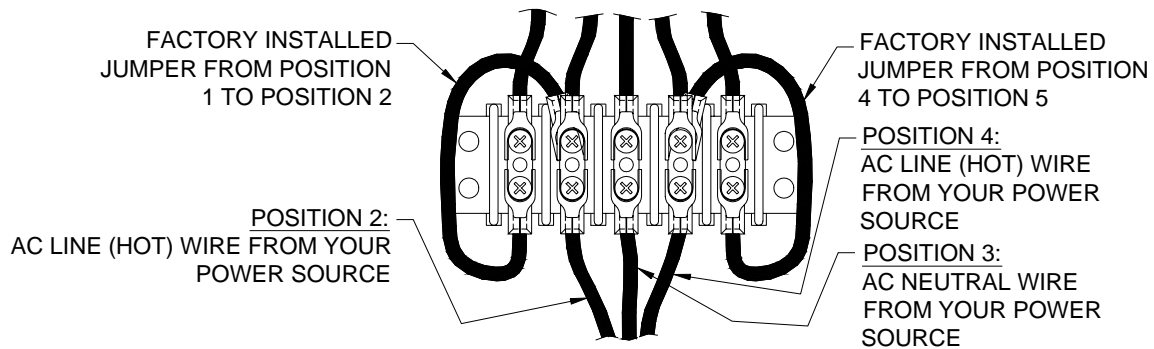

Figure 8 240 VAC Connections
3. If you are going to connect the scoreboard to a 240 VAC supply, connect one AC line wire to position 2, AC neutral wire to position 3, and the other AC line wire to position 4 of terminal strip T4 on the junction chassis according to figure 8.